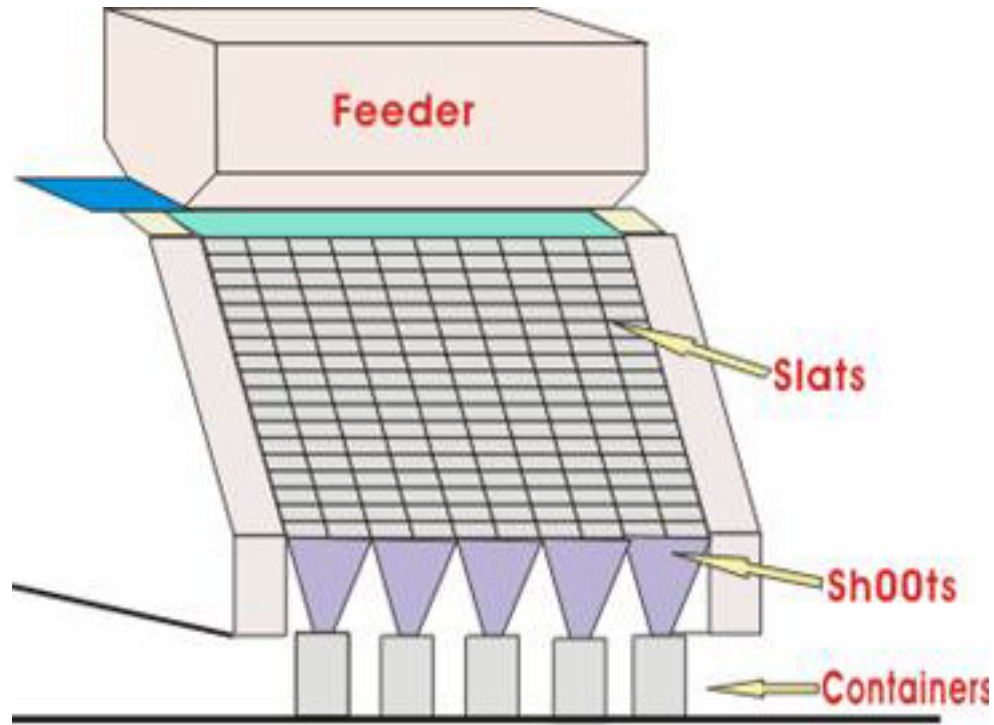

Figure 20.36 Slat counter
- The slat counter is a chain driven conveyor made up of slats which have pockets or cavities to hold product items(Figure 20.36).